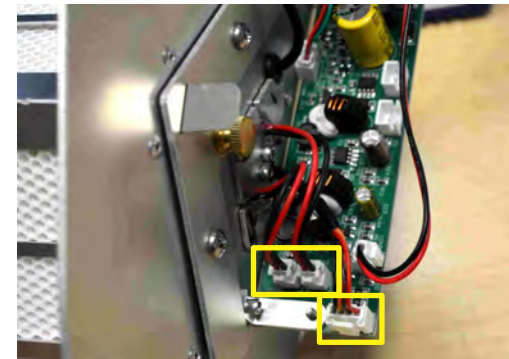
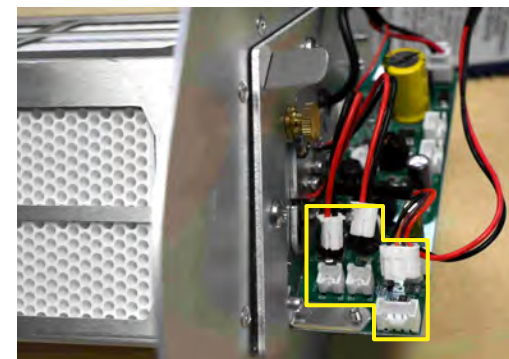

Figure 12
Figure 13
- Unplug three (3) LED Cell power cords from the Control Board. Refer to Figure 12 and Figure 13